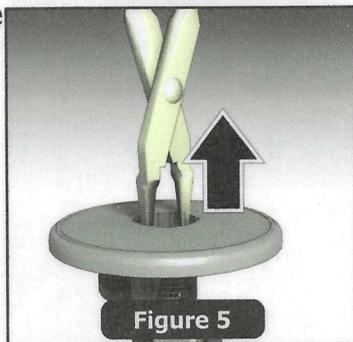

Figure 5
2. With needlenose pliers, remove the top cover (**Figure 5**).